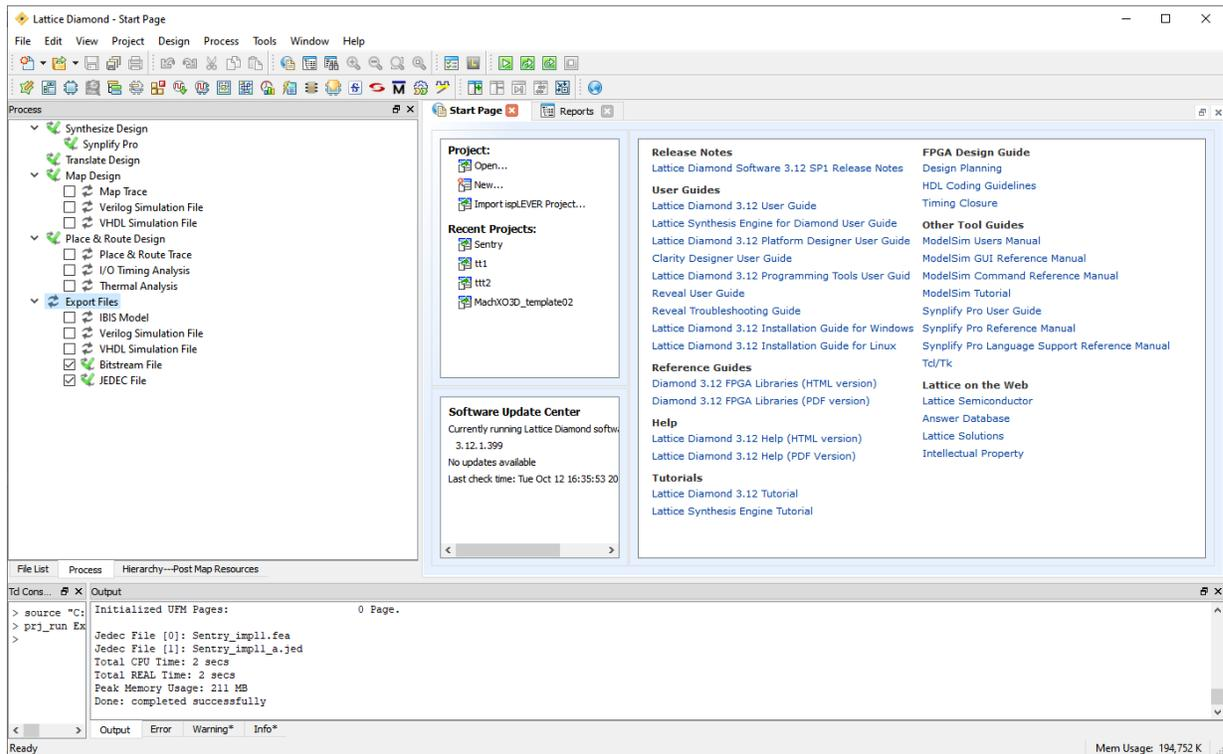

Figure 2.86. Generate Programming Files
- b. Switch to **Process** view of the Diamond project (Figure 2.86). Make sure at least one programming file (bitstream File or JEDEC file) is selected in the **Export Files** section. Available programming files can be different upon specific device included.